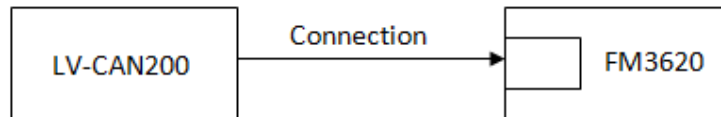
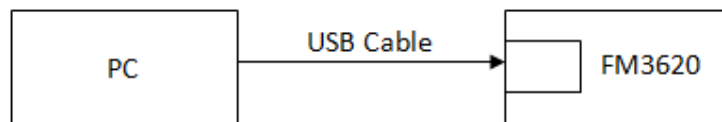

Figure 57 Connect adapter LV-CAN100 to FM3600
Figure 58 Connect FM3600 to PC and configure
FM3600 can be configured using “SCAN” function or “Offline Configuration” (Figure 58)
SCAN function – is in use when FM3600 is connected to CAN adapter (Figure 57), then wait 10s (Note, that car engine must be started), disconnect adapter from FM3600, and connect PC USB cable to FM3600 Device (Figure 58). It is very important not to disconnect FM3600 from power source during this operation, because if FM3600 is reconnected all received CAN bus data will be lost. FM3600 remembers received data from LV-CAN200 and at the end of the procedure when “SCAN” button is pressed, user will see all CAN data which is sent by adapter. Enable CAN data which needs send to server and save configuration pressing “Save” button.
1. In car, connect LV-CAN200 to CAN bus and to the FM3600 device (Figure 57), wait 10 seconds. Note, that car engine must be started.
2. Disconnect LV-CAN200 from FM3600, and connect PC USB cable to FM3600 Device (Figure 58). It is very important not to disconnect FM3600 from power source, because then all CAN data will be lost.
Available CAN Bus IO parameters and configuration can be found in Configurators CAN tab (Figure 58) and in next chapter “Parameters ID”.